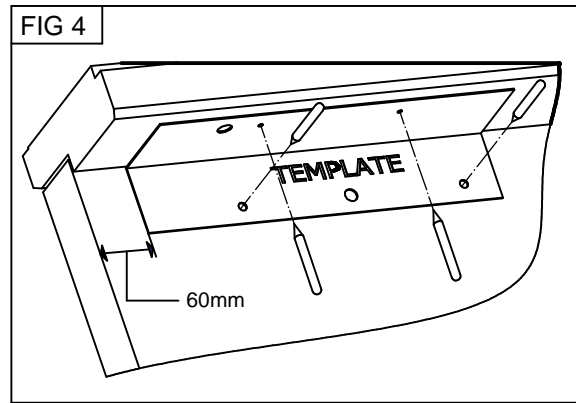

FIG 4
2. With the door closed and latched fix the template to the door and frame. Place the edge of the template 60mm (2.4") from the side frame (see Fig.4).
4. **From the outside** of the door enlarge the 9mm hole to 12mm to a depth of 36mm (On Hollow doors enlarge the hole to 16mm through the outer door skin only to accommodate the Aluminium spacer (C).